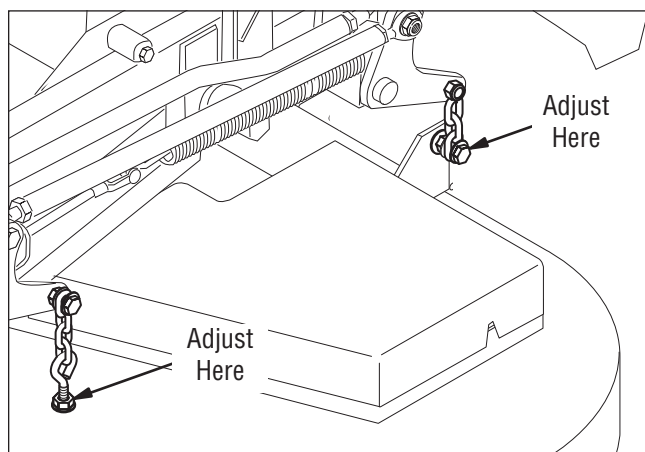

Figure 44. Hanger Chain Adjustment
6. Adjust the front eyebolts until the chains are tight and the deck is still resting on the 2 x 4's and spacers. Tighten jam nuts. See Figure 44.
7. Loosen the nuts and allow the rear of the deck to rest on the 2 x 4's and 1/4" spacers. Slide the chains down in the slots until the chains are tight and tighten the nuts. See Figure 44.